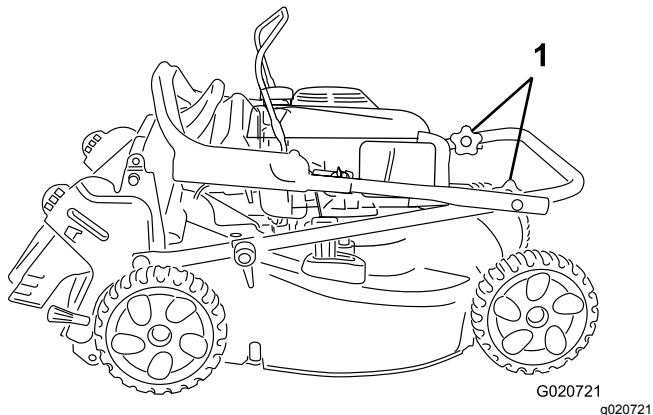

Figure 22
3. Rotate the upper portion of the handle back toward the engine; refer to Figure 22.
2. Disconnect the wire from the spark plug (Figure 22).